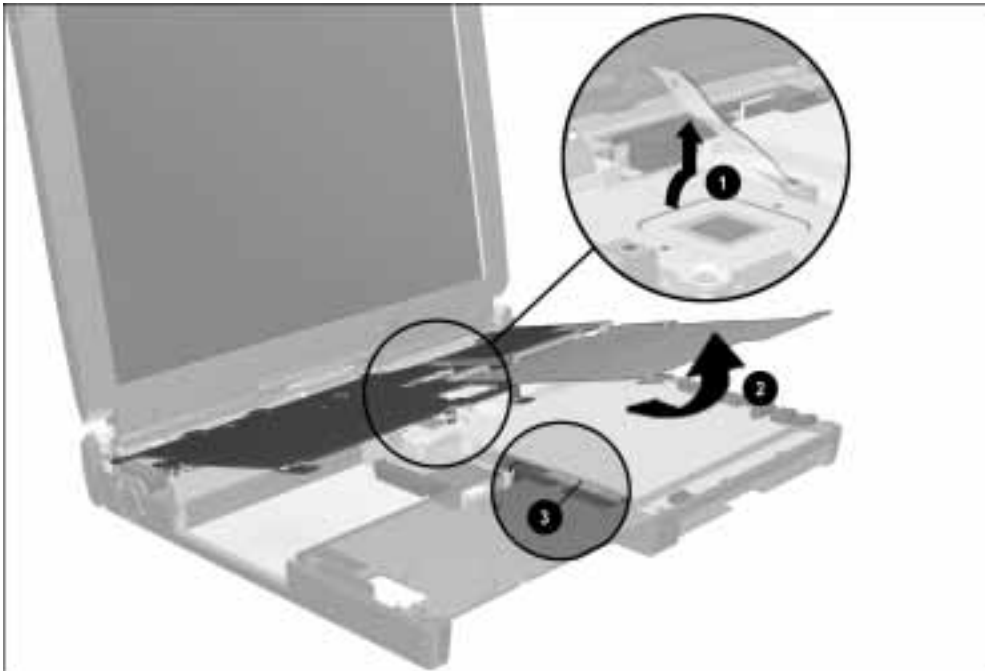

Figure 5-22. Removing the EMI shield
10. Swing the left side of the heatpipe mount leaf spring up and away from the base assembly ❶ (Figure 5-22).
11. Lift the front edge of the EMI shield up and remove the shield from the computer ❷.